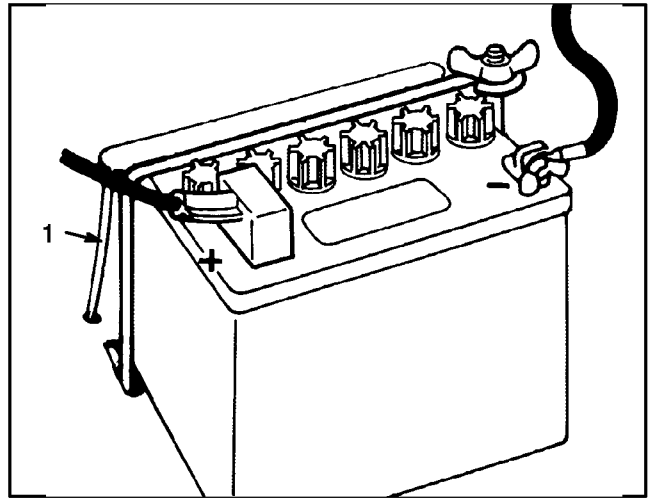

Figure 8
9. Install the battery with the terminal posts toward the rear of the machine and vent tube on left side of battery, through the hole in the frame (Fig. 8).
11. Install the red positive cable (rubber boot over end) to the positive (+) terminal and the negative cable (black) to the negative (-) terminal of the battery and secure them with capscrews and wing nuts. Slide the rubber boot over the positive terminal to prevent possible contact (Fig. 8).